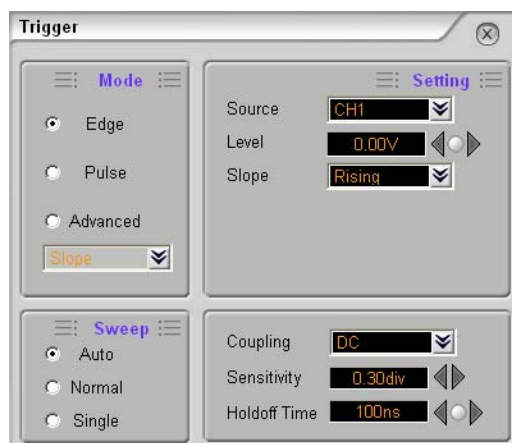

Figure 1-16 Trigger Window
2. Click the **T** button, turn the **Trigger** window on (Figure 1-16), to set the trigger options.